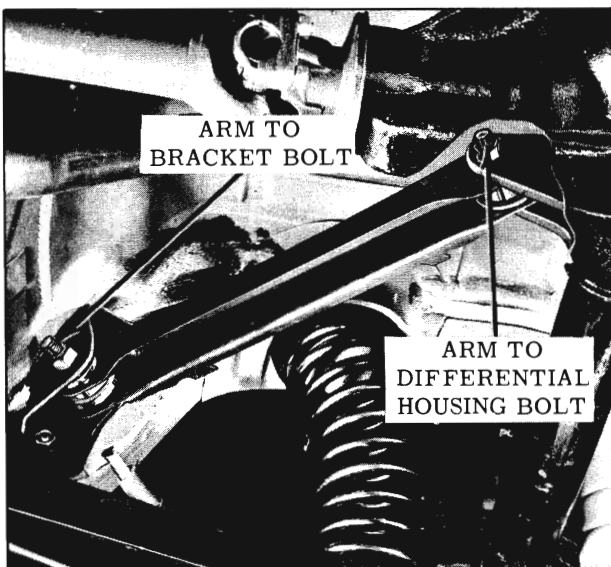

Fig. 5-122 Upper Suspension Arm
1. Remove nut from rear arm to differential housing bolt. (Fig. 5-122)